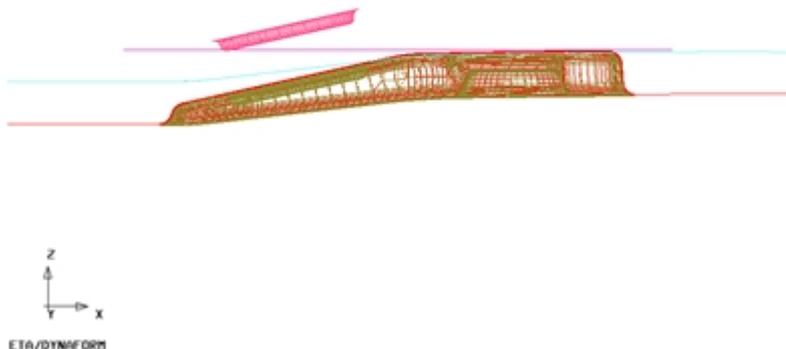

Figure 5.77 Animation of tool movement
5. The time step and displacement of tools are printed on the upper left hand corner of the display area. See Figure 5.77.